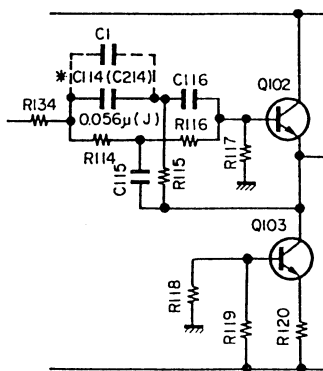

Fig. 6.3.8
- a) Add capacitor C1 0.015  $\mu$ F in parallel to C114 (C214) on the Playback Amp. & Dolby NR P.C.B. Ass'y as shown in Fig. 6.3.8.